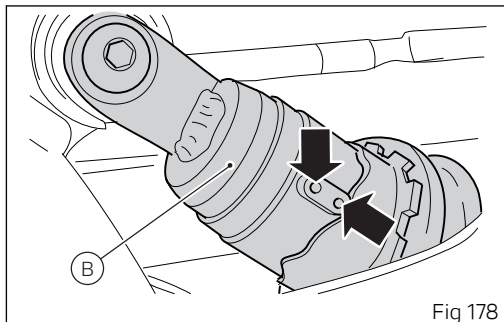

Fig 178
The chain tension value is valid if the rear shock absorber (B) is in default condition, that is 2 notches from the fully compressed condition, as shown (Fig 178).